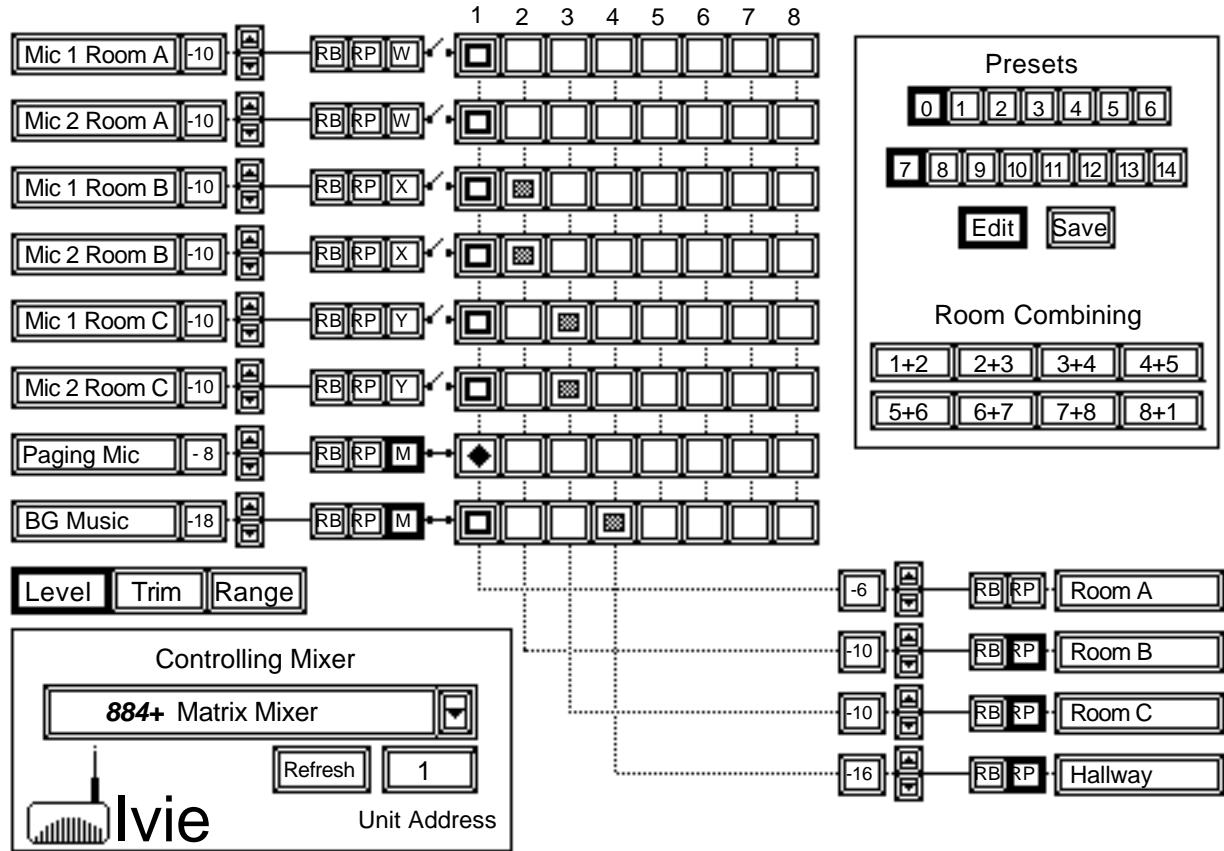

Figure 42
These considerations are covered in detail in Figure 42 on the following page where Preset 7 programming is shown (Page Room A from the Front Desk):
3. Assign (Definitely On) the front desk Paging Microphone to Room A using the appropriate Mix Bus Assign Button (the red diamond on the Mix Bus Assign Button shown in Figure 42 above demonstrates that this has been done).
4. Turn off every other input that could possible feed Room A (the red rectangles on Mix Bus Assign Buttons shown in Figure 42 above demonstrate that this has been done).
5. Turn off (disable) the remote control for Room A (notice the RB button for Room A output is no longer depressed. Clicking on this RB Button releases it. While the graphic in Figure 42 shows the button released, it cannot show that the button would be red in color. On the ANSW+ software screen, it *would* be red to indicate it had been changed as part of the preset).
6. Using the up/down level buttons, adjust the page level coming into Room A. (Notice that the Room A output level has been turned up from -10dB to -6dB in Figure 42 on the preceding page.) (Again, the changed level would be red in color.)